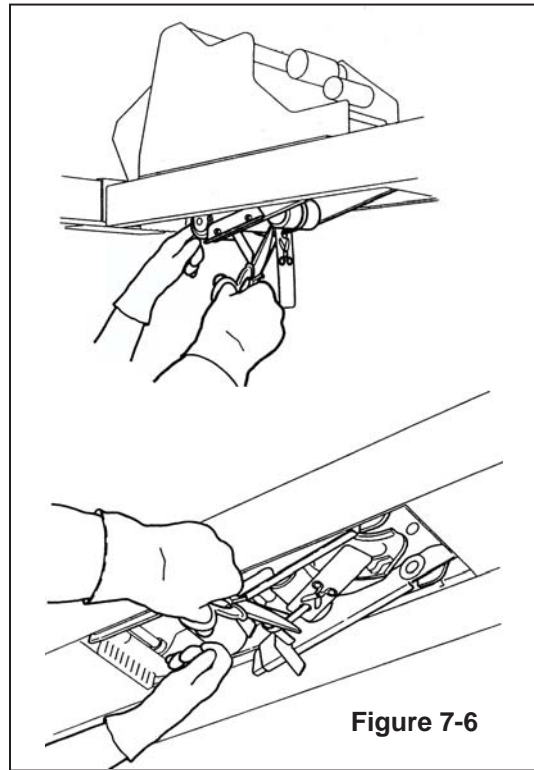

Figure 7-6
8. Cut the plastic ties holding the upper and lower taping heads in position. Hold taping head buffing roller while cutting the plastic tie. Allow buffing/applying arms to extend slowly. (Figure 7-6).